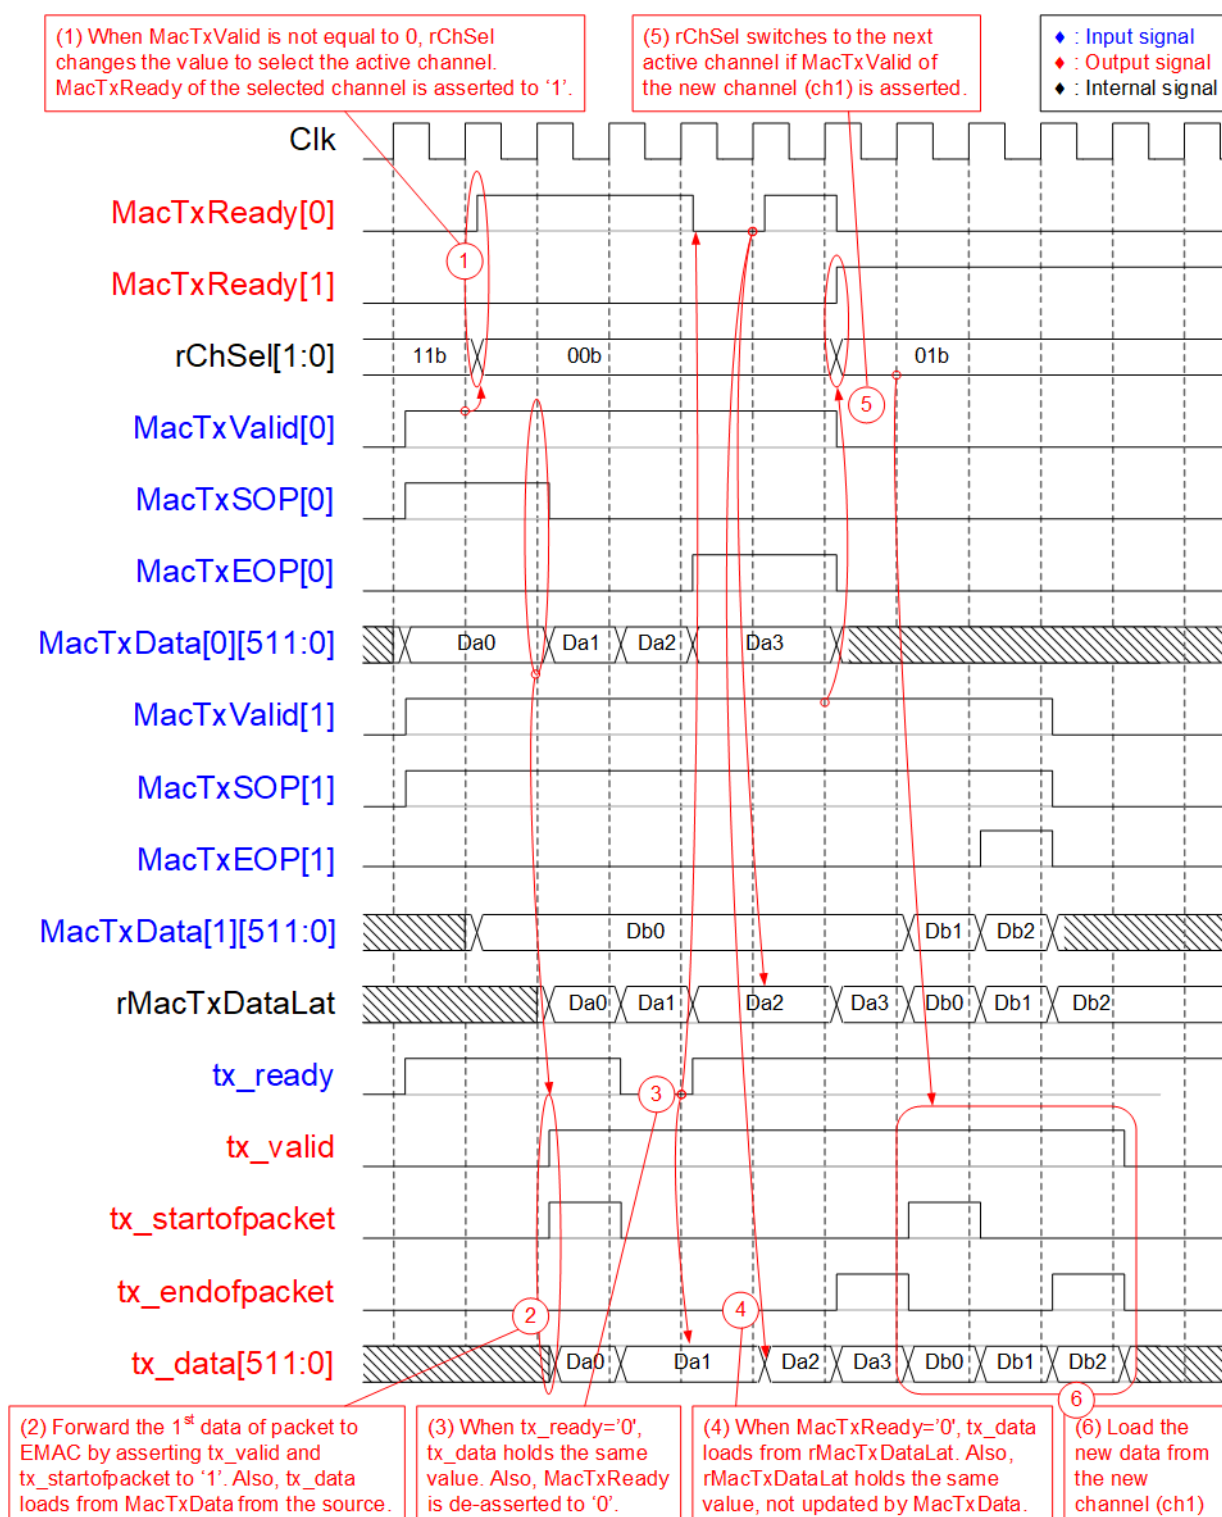

Figure 2-2 TxEMACMux4to1 timing diagram
The system consists of four TOE100G-IPs which share the same EMAC. Therefore, TxEMACMux4to1 is designed to transfer the transmitted packet from four TOE100G-IPs to one EMAC. The core signal inside this module is rChSel that is applied to select one active TOE100G-IP module from four modules. Timing diagram of this module is displayed in Figure 2-2.
- 1) If current channel (Ch#3) does not transfer the data and the new channel requests to transfer data by asserting MacTxValid to '1', rChSel (the signal to indicate the active channel) will switch the value to the new channel. In Figure 2-2, there are two channels that send the request at the same time. The selected channel will be the nearest channel of the order 0 -> 1 -> 2 -> 3 -> 0. Therefore, Ch#0 is higher priority than Ch#1 when the current channel is 3. MacTxReady of the selected channel (Ch#0) is asserted to '1' to accept the first data.
- 5) After accepting the final data of a packet from the active channel, the next active channel is scanned. If MacTxValid of remaining channels is asserted, rChSel will update the value following the rule (0 -> 1 -> 2 -> 3 -> 0). In Figure 2-2, the next active channel is Ch#1, so rChSel is set to 01b to accept the data from Ch#1.